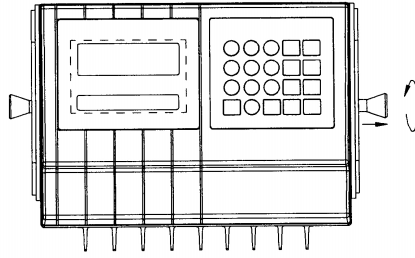

Figure 2
4. Mount the terminal into the mounting bracket by pulling the two locking knobs (welded to the bracket) away from the plate and turning the knob counterclockwise 1/4 turn. Refer to Figure 2. This will lock the knob in the disengaged position. Align the open holes on each swivel plate to the bracket knobs and twist the knob until the knob springs back into the swivel plate hole.